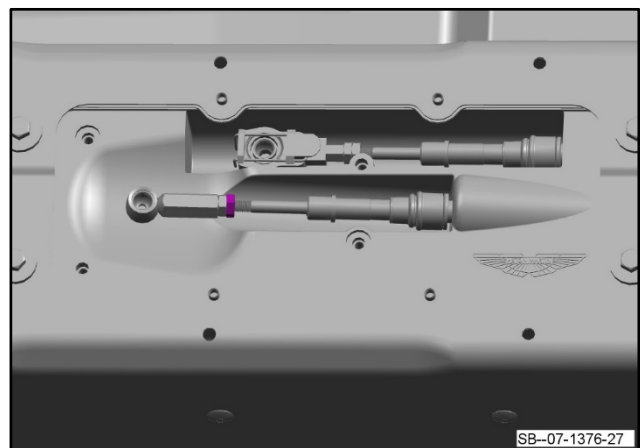

Figure 21
23. Tighten the locking nut to hold the ball joint at the correct position (refer to Figure 21).